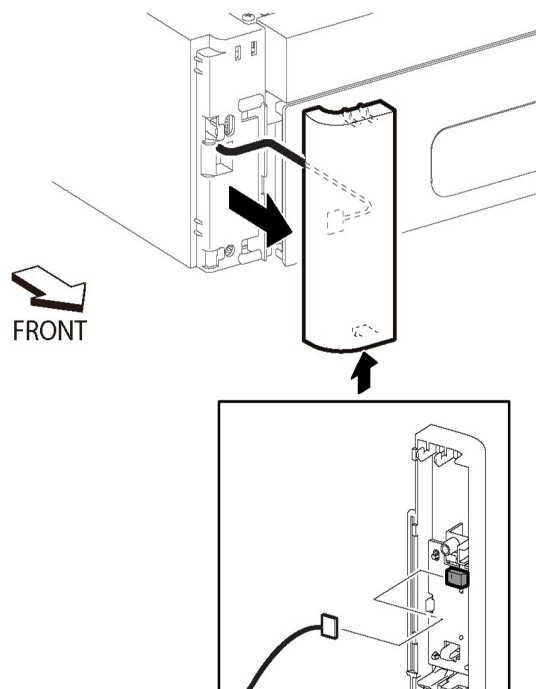

Figure 1 Optional 550-sheet feeder left front cover removal
2. Remove the optional 550-sheet feeder left front cover, Figure 1: